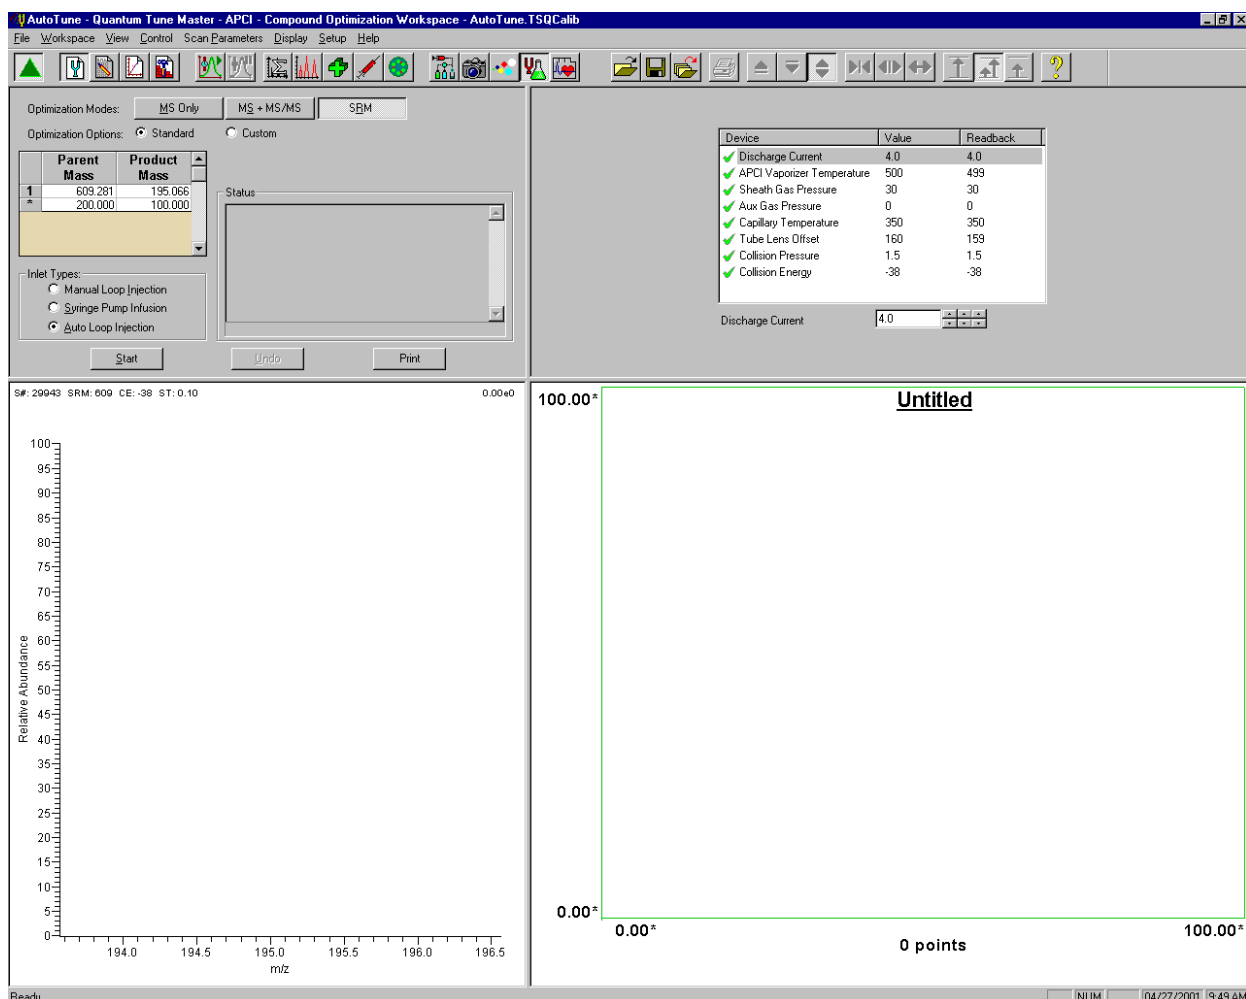

Figure 7-9. Compound Optimization workspace, APCI mode
1. On the Control / Scan Mode toolbar, click on the Compound Optimization Workspace button to display the Compound Optimization workspace. See Figure 7-9.